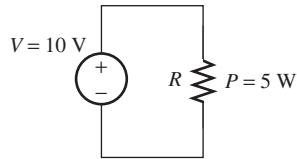

FIGURE P2.51 Circuit for Problem 2.51.
- 2.51 (A)** Find the value of the resistance, R , in Figure P2.51.